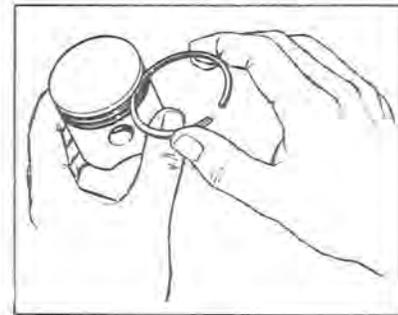
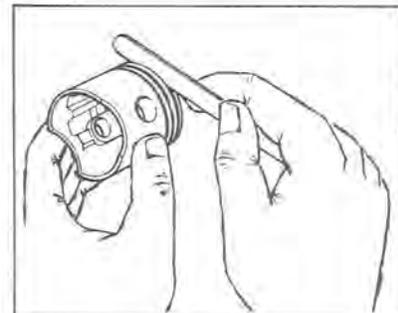

Figure 9-19
Figure 9-20
- d. Check each ring in its respective ring groove for tightness or binding by rolling the ring around the piston groove (see Figure 9-19). Check for groove side clearance with feeler gage (see Figure 9-20) (see Section 2, Specifications).